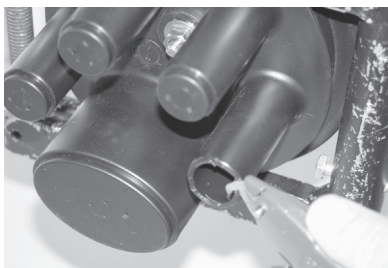

Figure 3
2. Cut port with sheath knife. (Figure 3)